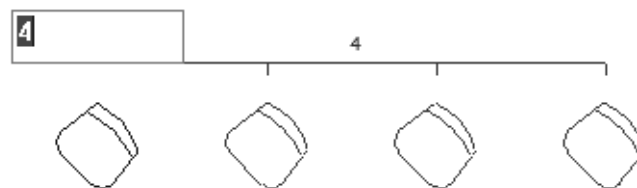

Figure 2–39
6. If **Group and Associate** is selected, you are prompted again for the number of items, as shown in Figure 2–39. Type a new number or click on the screen to finish the command.